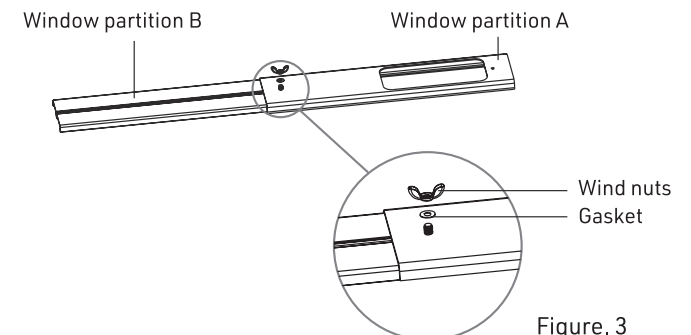

Figure. 3
- 4.) As shown in Figure 3, turn over the window partition, put the gasket and wing screw in turn and tighten them;